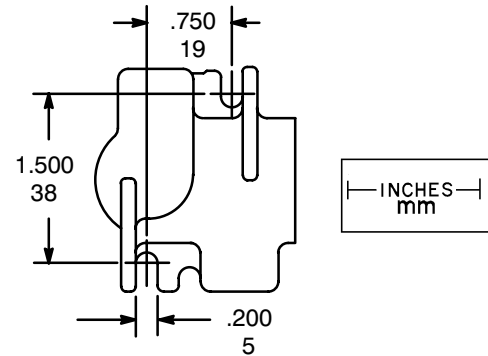

Figure 1. Dimensions for mounting valve body.
**Mounting** For mounting valve body refer to Figure 1.